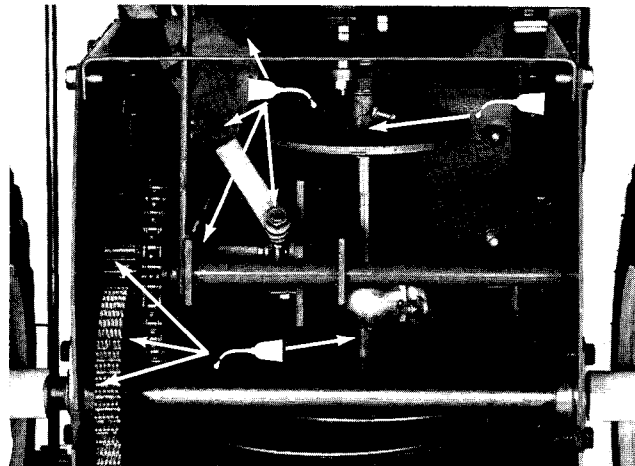

Figure 28
2. First, drain gasoline from fuel tank: refer to Draining Gasoline. Second, tip snowthrower onto auger housing and block it so it cannot fall. Now remove four thread forming screws holding rear shield in place, and slide shield away from traction unit. Next, lightly lubricate drive chains, sprocket bushing, nylon ring, hex shaft, and the other pivot points with SAE 10W-40 oil (Fig. 28). Wipe up any excess oil. Lastly, install rear shield with four thread forming screws.